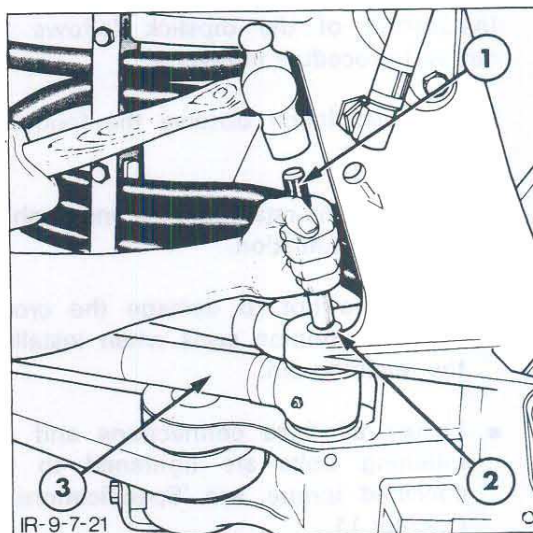

Figure 26
5. Disconnect both swing cylinder rod end trunnions from the swing post by removing the split pins and retainers and driving the attaching pins out using a brass drift and hammer, Figure 26.